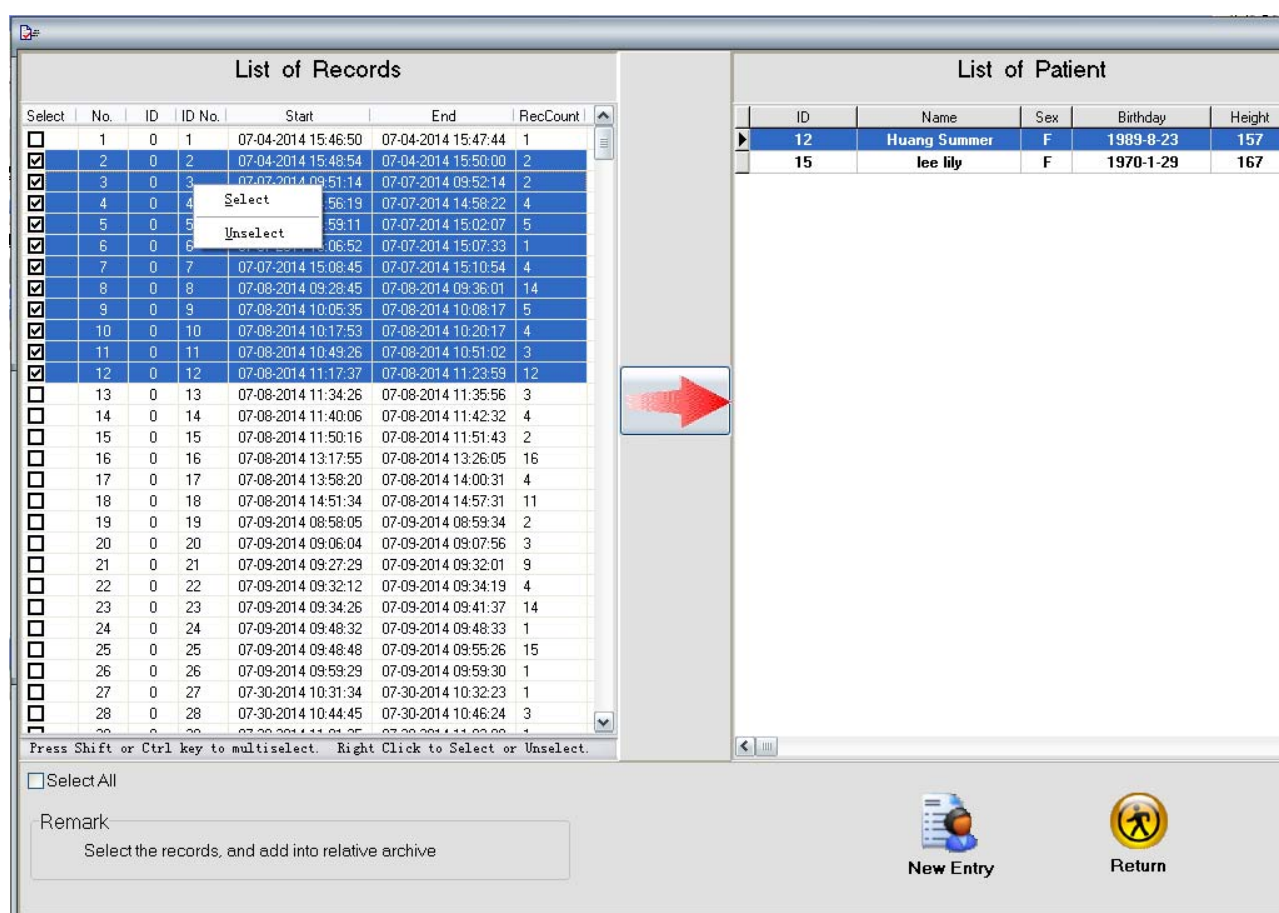

Figure 3.7A Upload the selected data record(s) to the selected patient archive
2. When the device is connected to PC via data cable, the device works as a USB disk (eg. PC-300SNT) where the data file "PC\_DATA.DAT" exists in it. Data upload can be done by searching the specific device automatically or finding the specific data file with name of "PC\_DATA.DAT". Alert message pops up on the screen if it fails to search such data file. If the searching is successful, the below figure 3.7A appears.